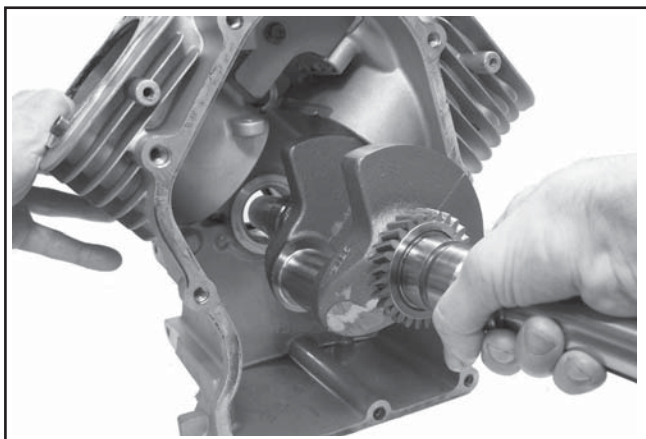

Figure 8-51. Removing Crankshaft.
1. Carefully pull the crankshaft from the crankcase. See Figure 8-51.